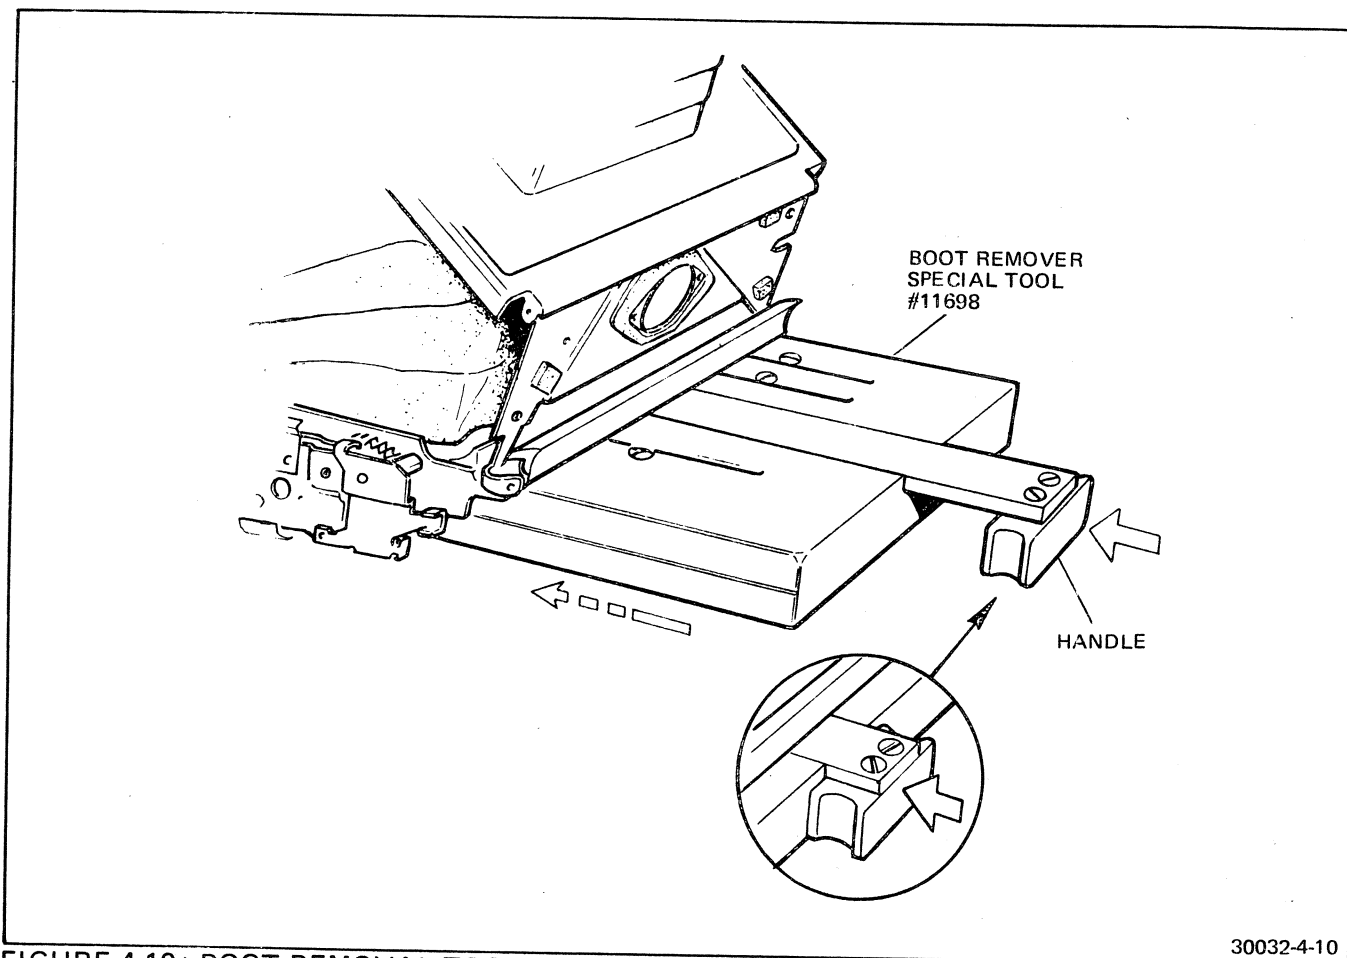

FIGURE 4-10 BOOT REMOVAL TOOL
13. Referring to Figure 4-10, note orientation of the handle; this must be as shown to prevent damage to tool and/or camera. Insert boot remover, Special Tool #11698, into the film compartment of the camera. Note that the plunger handle is out, away from the body of the tool. Be sure the body of the tool is fully seated in the film compartment.
10. Referring to Figure 4-10, note orientation of the handle; this must be as shown to prevent damage to tool and/or camera. Insert boot remover Special Tool #11698 into the film compartment of the camera. Note that the plunger handle is out, away from the body of the tool. Be sure the body of the tool is fully seated in the film compartment.